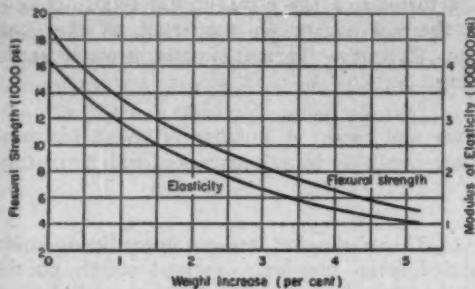

Fig. 4—Effects of moisture content (weight increase) on flexural strength and stiffness
Next element in the system is the unit cabinet, any number of which can be joined to form larger cabinets, *Fig. 4*. The entire computer system is housed in the requisite number of unit cabinets. Since the desirable limit for portability is usually three unit cabinets joined, screw terminal disconnect strips are used between cabinet sections. This feature makes possible the disassembly, shipment and reassembly of a complete computer system with no unsoldering or resoldering of connections, reducing installation time to a few days.
*Fig. 4—Left—Unit cabinet is a standard section frame constructed primarily of welded "Unistrut" members. Back panels, separating bulkheads, and supporting frame members can be varied in size and placed most advantageously within the unit cabinet. Dimensions are 80 inches high, 40 $\frac{3}{8}$  inches wide and 30 inches deep. Any number of sections can be joined to form the desired overall cabinet*